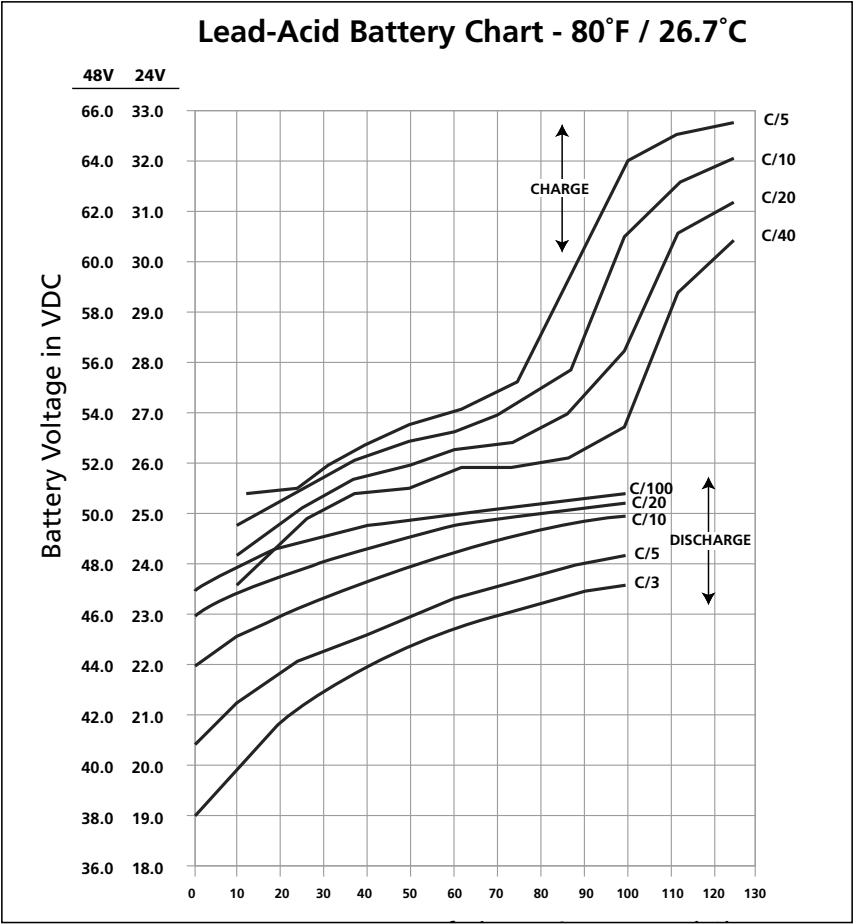

Fig. 7.1: Charging / Discharging Curves for 24V / 48V Lead Acid Batteries
Fig. 7.1 shows the charging and discharging characteristics of a typical 24V / 48 Lead Acid battery at electrolyte temperature of 80°F / 26.7°C. The curves show the % State of Charge (X-axis) versus terminal voltage (Y-axis) during charging and discharging at different C-Rates. **Please note that X-axis shows % State of Charge. State of Discharge will be = 100% - % State of Charge.** These curves will be referred to in the subsequent explanations.
The discharge curves in Fig. 7.1 show the % State of Charge versus the terminal voltage of typical battery under different charge /discharge currents, i.e. "C-Rates" and fixed temperature of 80°F.
**NOTE:** The X-axis of Curves shown in Fig 7.1 indicates the % State of Charge. % State of charge may be converted to % State of Discharge using formula given below:
Inverters are provided with audible alarm that is normally triggered when the voltage at the DC input terminals of the inverter has dropped to 80% discharged condition at C-Rate discharge current of C/5 Amps. Please note that the terminal voltage relative to a particular of State Discharge decreases with rise in the value of the discharge current. For example, terminal voltages for State of Discharge of 80% (State of Charge of 20%) for various discharge currents will be as given at Table 7.5 (Refer to Fig 7.1 for parameters and values shown in Table 7.5):
As explained above, inverters are normally provided with a protection to shut down the output of the inverter if the DC voltage at the input terminals of the inverter drops below a threshold of corresponding to 100% discharged condition. In this inverter, this threshold is programmable through parameter "UVP Setting" (See Section 7.12.2). Referring to the Discharge Curves given in Fig 7.1, the State of 100% Discharge for various C-Rate discharge is as follows:
In this inverter, the threshold of Low DC Input Voltage Shutdown is programmable and is called "UVP Setting" (UVP stands for Under Voltage Protection). The default value is 20V for 24-1200RM and 40V for 48-1200RM. This default value is close to the terminal voltage at 100% discharge condition at C-rate discharge current of C/5 Amperes (Refer to Fig 7.1). For programming details, refer to Fig 10.1 / Table 10.1 under Main Menu for Parameter Group 2 – "Input Setup" / Sub Menu for Parameter Group 2, Item (c) "UVP Setting" (Section 10.2.2.3).
It is recommended that programmable parameter "UVP Setting (See Section 7.12.2) may be used to shut down the inverter at voltage threshold corresponding to the desired Depth of Discharge. For example, if the inverter is to be shut down at 80% Depth of Discharged (20% State of Charge) at C-Rate discharge current of C/5 Amps, the voltage will be 21.8V for 24-1200RM (Refer to Fig 7.1).